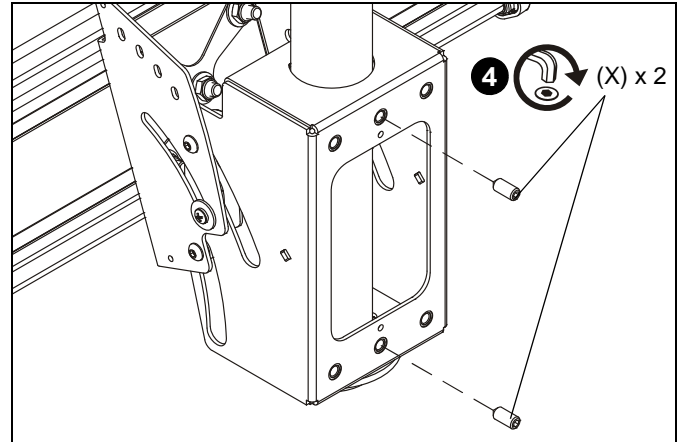

Figure 2
4. Install and tighten two 5/16" set screws (X) through back of mount (CC) and against column. (See Figure 2)